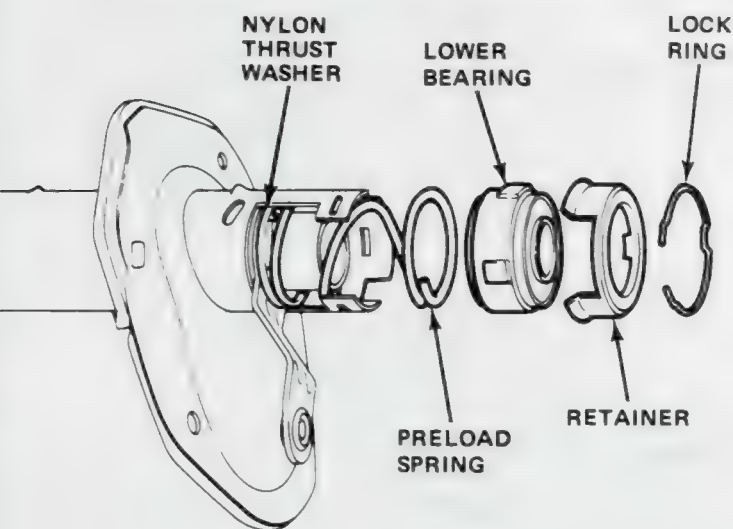

Fig. 2H-17 Lower Bearing Assembly
(2) Remove lower bearing retaining clip retainer and lower bearing (fig. 2H-17).